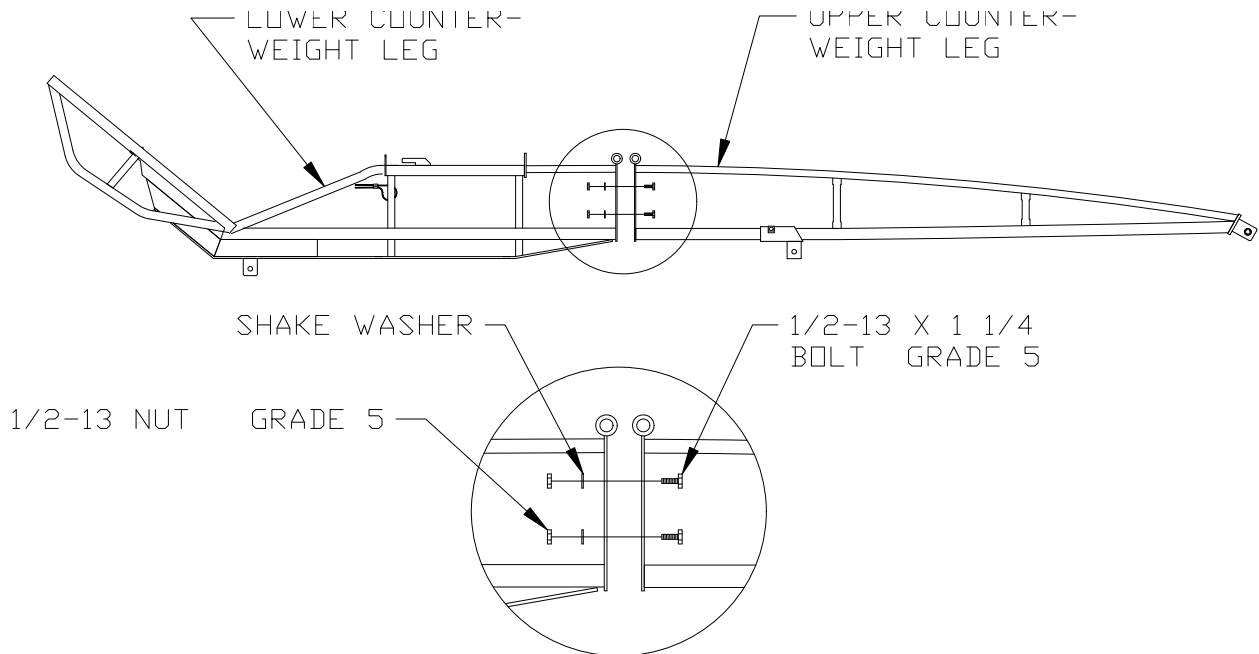

Figure 3-4.
1. Align the upper and lower sections of the Counterweight Leg as shown in Figure 3-4.
2. Fasten upper and lower counterweight sections together with 1/2" x 1-1/4" Grade 5 bolts and nuts with shake washers as shown in Figure 3-4.